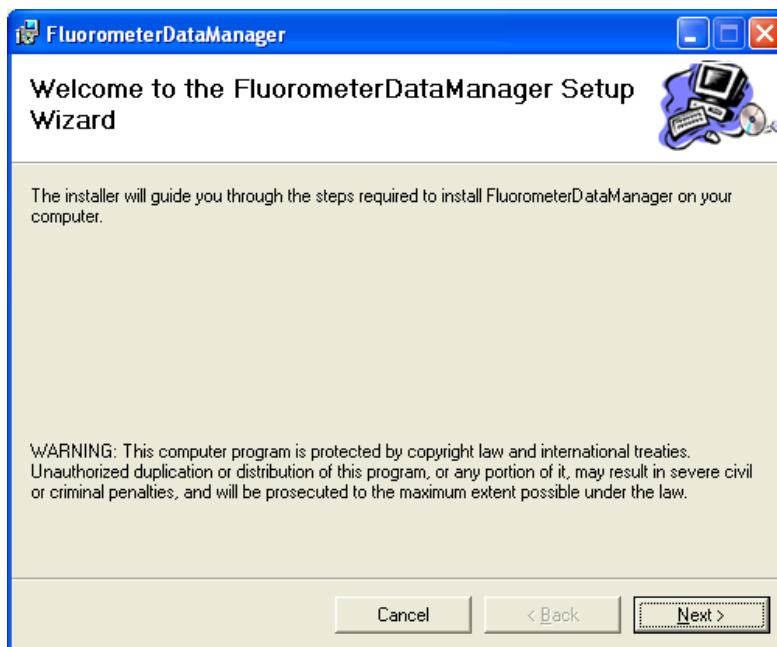

Figure 9. Install Handheld Fluorometer Data Manager
- c. Double click “**Setup.exe**” in the installation package and follow the instructions displayed during the installation to install “**FluorometerDataManager.exe**” on the host computer, as shown in Figure 9. By default the data manager program will be installed in the directory: C:\Program Files (x86)\Fluorometer\Data Manager - User\. A “Data Manager - User (Active)” shortcut will also be created on the computer Desktop.